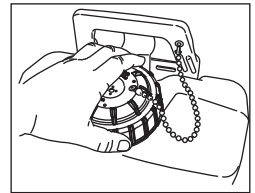

Figure 5.
1. Remove the cap from the tank. Turn the cap counterclockwise. **See Figure 5**